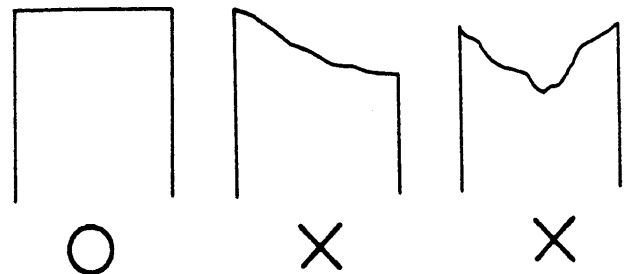

Fig. 2-3. Processing the Paper's Leading Edge
- (2) The paper's leading edge should be as shown in Fig. 2-3.